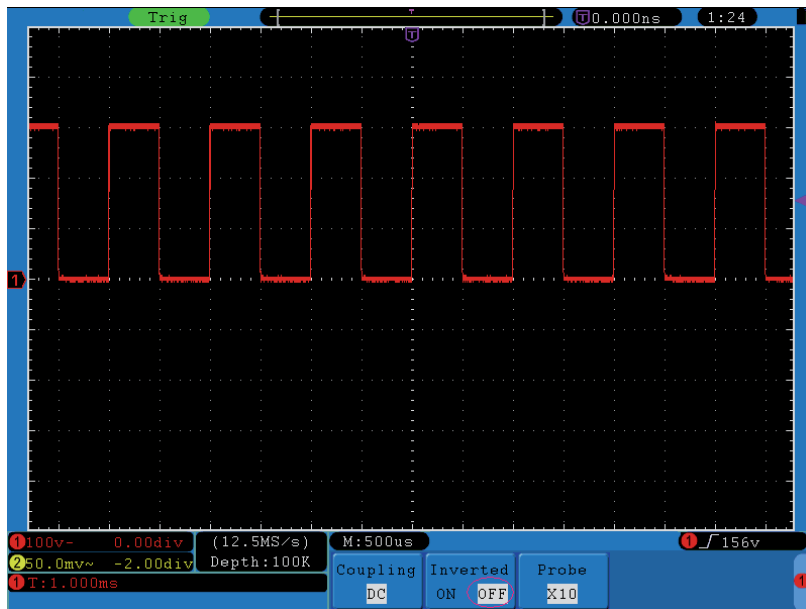

Figure 17. Original Waveform.
- 3 Press the **H2** menu selection button again and select **OFF** for **Inverted** item. The waveform goes back to its original one as it is shown in Figure 17.